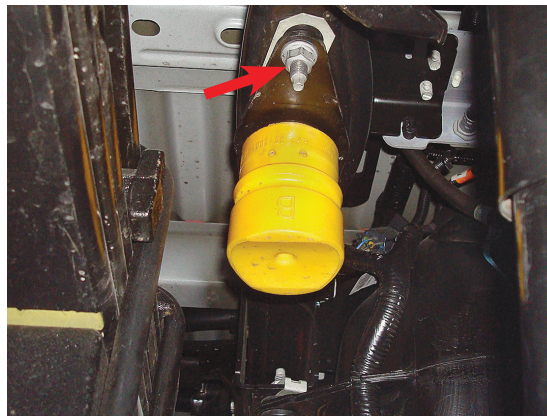

Fig. 3
2. Unbolt and remove the jounce bumper assembly from under the frame on both sides (Fig. 3).